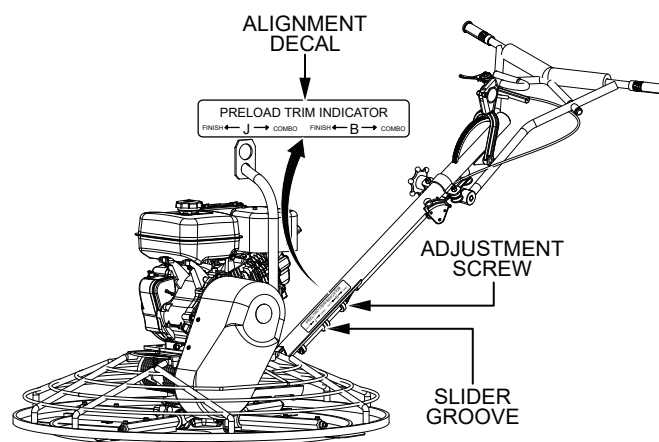

Figure 16. Spring Pre-Load Adjustment
1. Locate the spring pre-load adjustment screw (Figure 16) on the underside of the handle tube.
2. An alignment decal (Figure 16) is located on the side of the handle tube. Turn the adjustment screw until the slider groove aligns with the letter “B” on the decal.